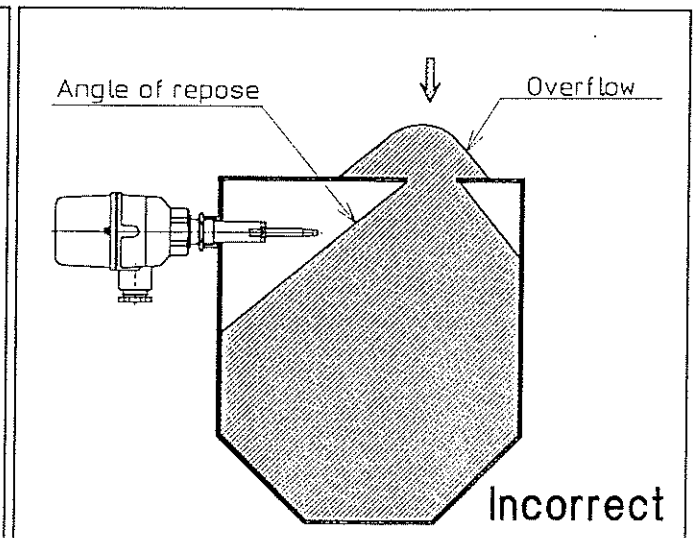

Fig. 4-5
- (6) When used as a high level control, calculate the angle of repose for measuring materials and install the detection rod where it surely covers. 【See Fig. 4-5】